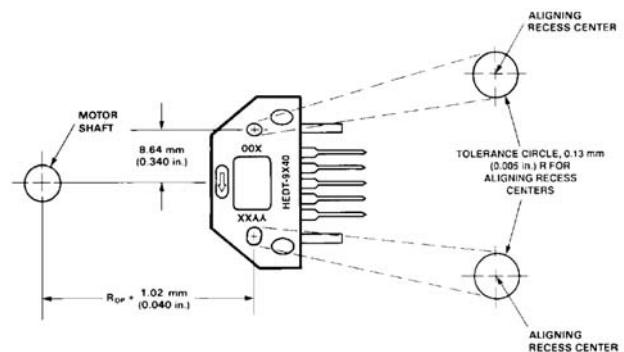
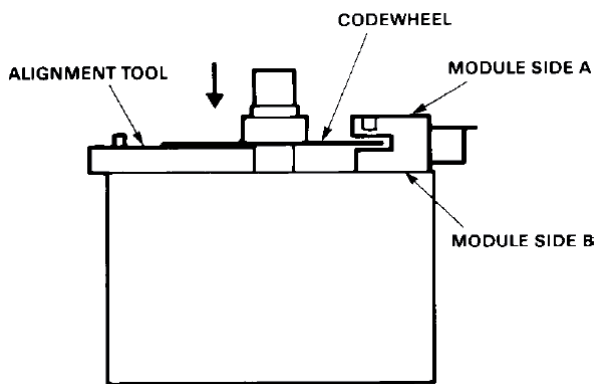
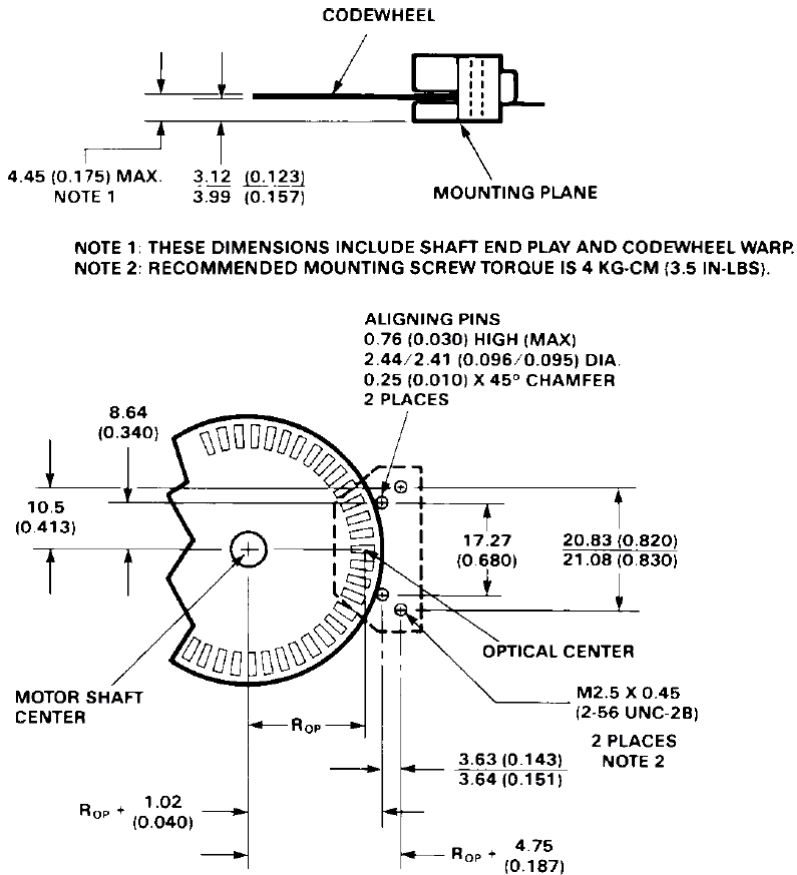

Figure 2. HEDT-9X40 Mounting Tolerance.
Figure 3. Alignment Tool is Used to Set Height of Codewheel.
Figure 5. Mounting Plane Side A.
Figure 2 shows a mounting tolerance requirement for proper operation of the HEDT-9040 and HEDT-9140. The Aligning Recess Centers must be located within a tolerance circle of 0.13 mm (0.005 in.) radius from the nominal locations. This tolerance must be maintained whether the module is mounted with Side A as the mounting plane using aligning pins (see Figure 5), or mounted with Side B as the mounting plane using an alignment tool (see Figures 3 and 4).
2. Set codewheel height: (a) place alignment tool on motor base (pins facing up) flush up against the motor shaft as shown in Figure 3. (b) Push codewheel down against alignment tool. The codewheel is now at the proper height. (c) Tighten codewheel setscrew and remove alignment tool.
The HEDT-9040 and HEDT-9140 can also be mounted using aligning pins on the mounting surface. (Avago does not provide aligning pins.) For this configuration, Side A must be used as the mounting plane. The aligning recess centers must be located within the 0.13 mm (0.005 in.) Radius Tolerance Circle as explained in "Mounting Considerations." Figure 5 shows the necessary dimensions.